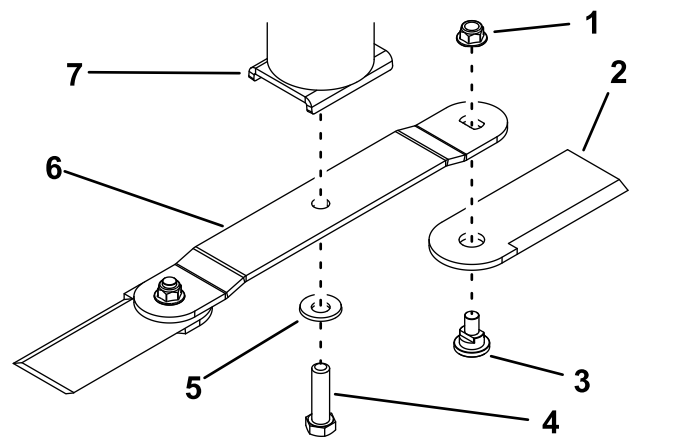

Figure 38
2. Remove the blade bolt, the curved washer, and blade from the blade mount on the bottom of the spindle-cup assembly (Figure 38).
If the blade is not balanced, file some metal off the back side of the blade (opposite of the cutting edge) only (Figure 38).
1. Attach the blade to the spindle cup assembly using the blade bolt and curved washer (Figure 38).
3. To install only the flail blades, secure the flails to the end of the blade using the flail bolt and a new nut for each flail (Figure 38). Torque the nut to 103 to 127 N·m (76 to 94 ft-lb).